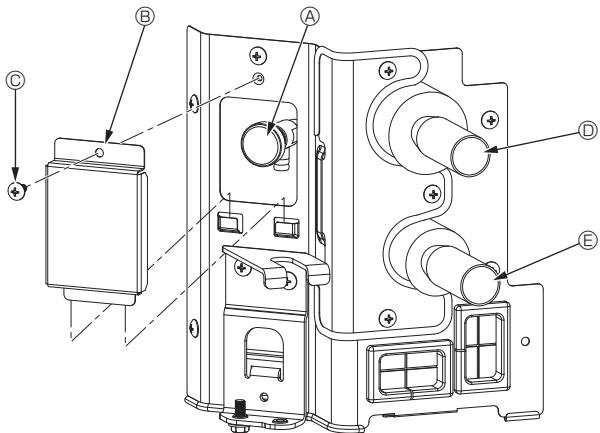

Fig. 7-1
7.2.2. The air vent valve of indoor unit (Fig. 7-1)
- ① Remove the air purge valve cover.
- ② Hold "A" with your fingers and twist it 3–4 times.
- ③ Air purge valve
- ④ Air purge valve cover (Tightening torque: 1.3 ± 0.3 N·m, 1.0 ± 0.2 ft-lbs)
- ⑤ Screw
- ⑥ From HBC unit (Inlet)
- ⑦ To HBC unit (Outlet)